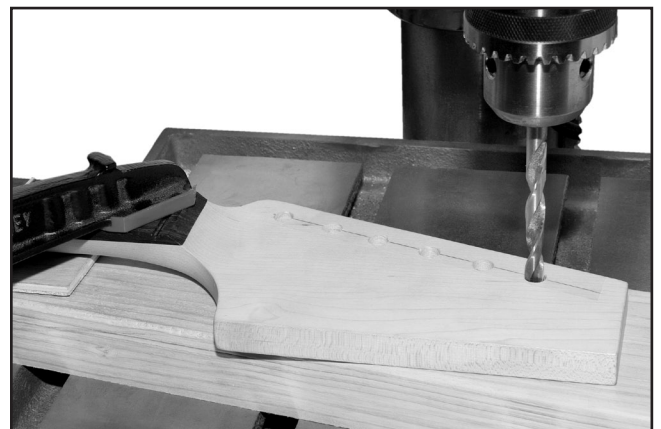

Figure 7. Drilling the pegholes.
9. Using a 1/4" bit, drill a hole through the top of the headstock for a tuner shaft, then center an 1 1/32" bit over the same hole and drill down 9/32" for the bushing as shown in **Figure 7**.